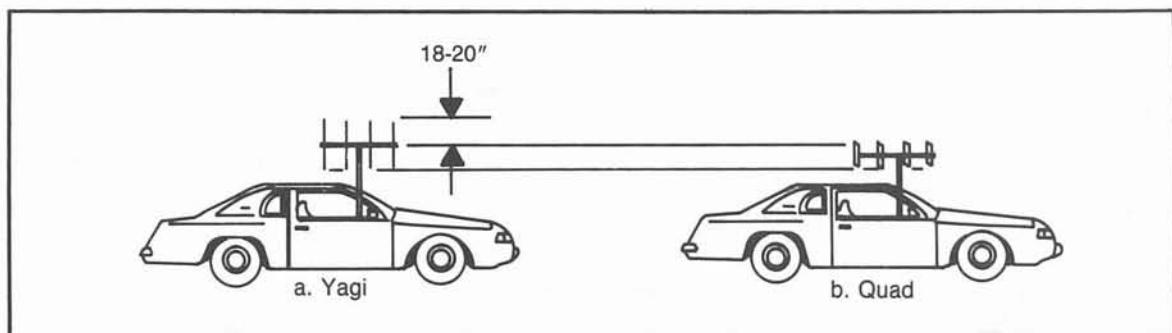

Fig. 4-5. A full sized 2 meter quad is much shorter than a similar Yagi.
- For vertical polarization, it is only half as tall as a yagi (see Fig. 4-5). Again, this helps to keep it away from antenna-eating trees.